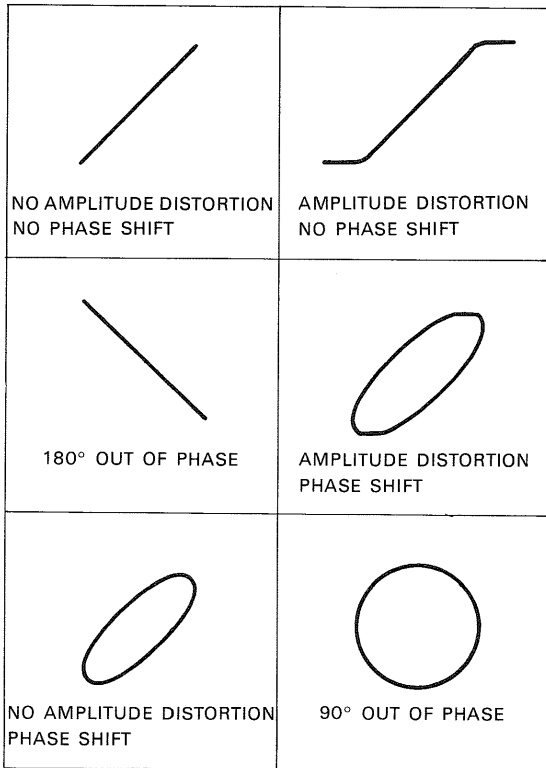
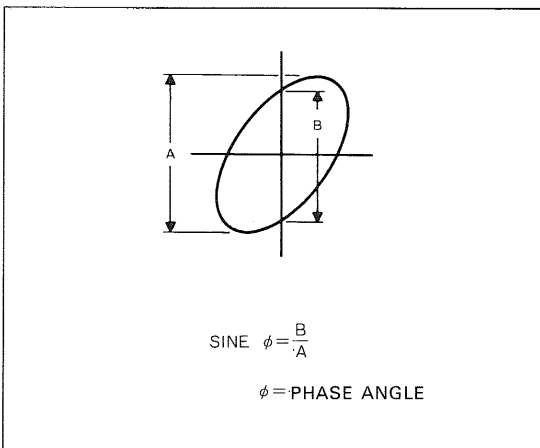

Fig. 32 Typical phase measurement oscilloscope displays
Fig. 33 Phase shift calculation
7. Some typical results are shown in Fig. 32. If the two signals are in phase, the oscilloscope trace is a straight line. If the vertical and horizontal gain are properly adjusted, this line is at 45° angle. A 90° phase shift produces a circular oscilloscope pattern. Phase shift of less (or more) the 90° produces an elliptical Lissajous pattern. The amount of phase shift can be calculated by the method shown in Fig. 33.